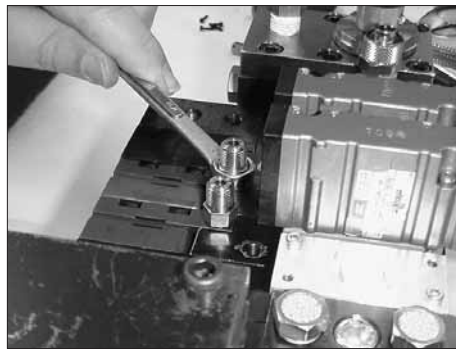

Figure 7-42 Removing a rupture disk
2. See Figure 7-42. Using a $\frac{7}{16}$ -in. wrench, remove the rupture disks from the pumps.